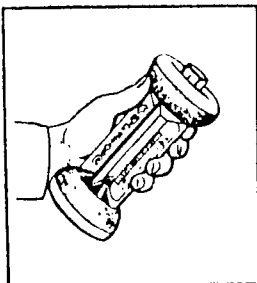

Figure 9
8. Hold FYRITE at 45° angle (Fig. 9) momentarily to allow fluid droplets to drain into bottom reservoir.